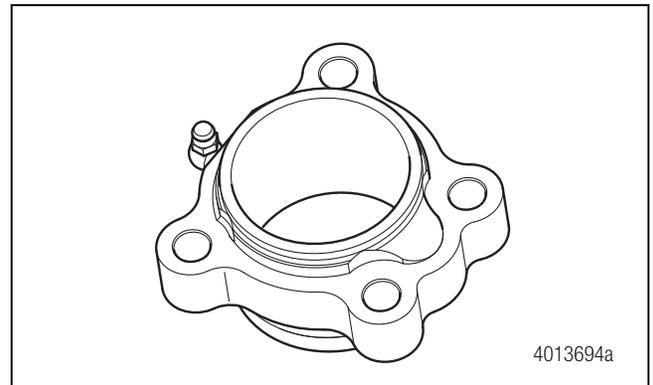

**Figure 11.42**
7. Use a suitable tool to drive the bushing and second seal out of housing. Figure 11.42 and Figure 11.43.